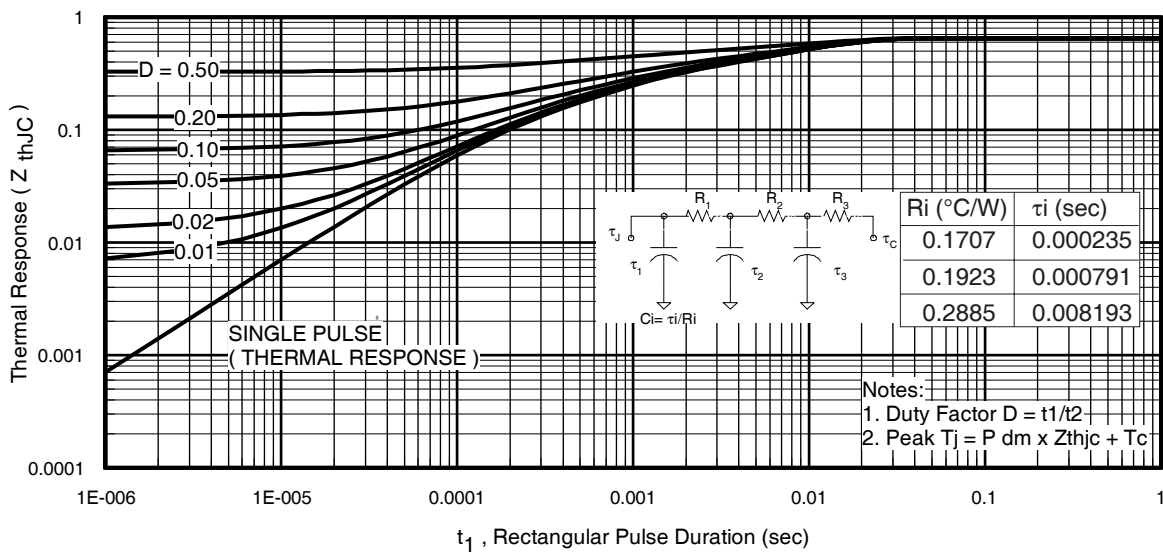
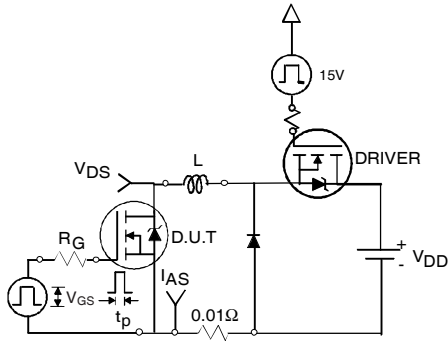

Fig 11. Maximum Effective Transient Thermal Impedance, Junction-to-Case
Fig 12a. Unclamped Inductive Test Circuit
- ① Repetitive rating; pulse width limited by max. junction temperature. (See fig. 11).
- ② Limited by T_{Jmax}, starting T_J = 25°C, L = 0.064mH, R_G = 25Ω, I_{AS} = 88A, V_{GS} = 10V. Part not recommended for use above this value.
- ③ Pulse width ≤ 1.0ms; duty cycle ≤ 2%.
- ④ C_{oss eff.} is a fixed capacitance that gives the same charging time as C_{oss} while V_{DS} is rising from 0 to 80% V_{DSS}.
- ⑤ Limited by T_{Jmax}, see Fig.12a, 12b, 15, 16 for typical repetitive avalanche performance.
- ⑥ This value determined from sample failure population. 100% tested to this value in production.
- ⑦ This is applied to D²Pak, when mounted on 1" square PCB (FR-4 or G-10 Material). For recommended footprint and soldering techniques refer to application note #AN-994.
- ⑧ R_θ is measured at T_J of approximately 90°C.
- ⑨ Solder mounted on IMS substrate.
3. Equation below based on circuit and waveforms shown in Figures 12a, 12b.
$Z_{thJC}(D, t_{av})$ = Transient thermal resistance, see figure 11)